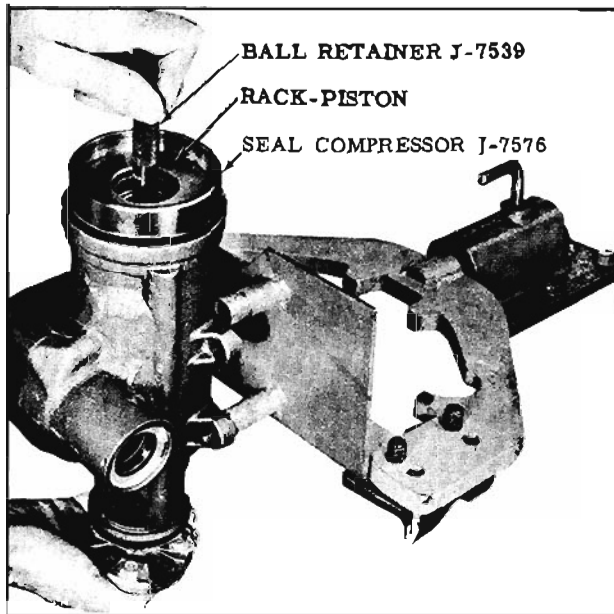

Fig. 8-71 Installing Rack-Piston
- c. With Ball Retainer J-7539 in place in the rack-piston, push the rack-piston into the housing until Tool J-7539 contacts the worm. (Fig. 8-71)